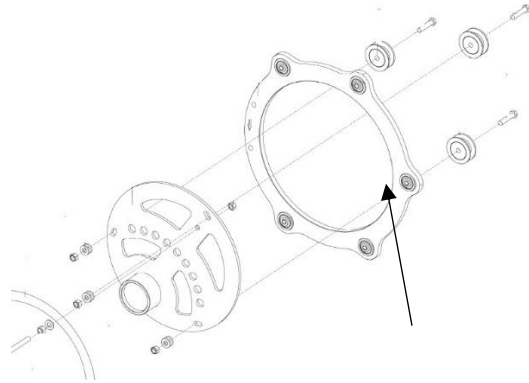

Figure 275
6. Remove the spider arms from the cam. The cam can now be removed by removing the bolts that hold the rollers on the cam. Figure 275